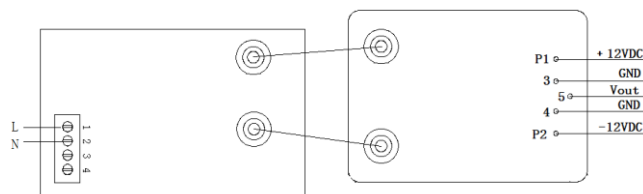

Figure4, Reference wiring diagram of CE-VJ03N-1TMS4-1.0 (PCB probe) (product bottom view)
9.2 According to the transducer terminal definition, follow the pin definition shown in Figure 4 to connect the test circuit.